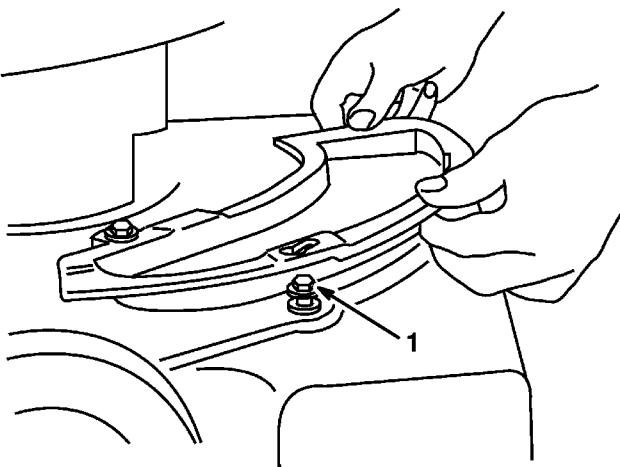

**Figure 4**
Your mower was shipped with a cover plate (Fig. 4). For side discharge operation, the plate must be installed into deck opening.
2. Remove knob that fastens cover plate to the housing (Fig. 4).